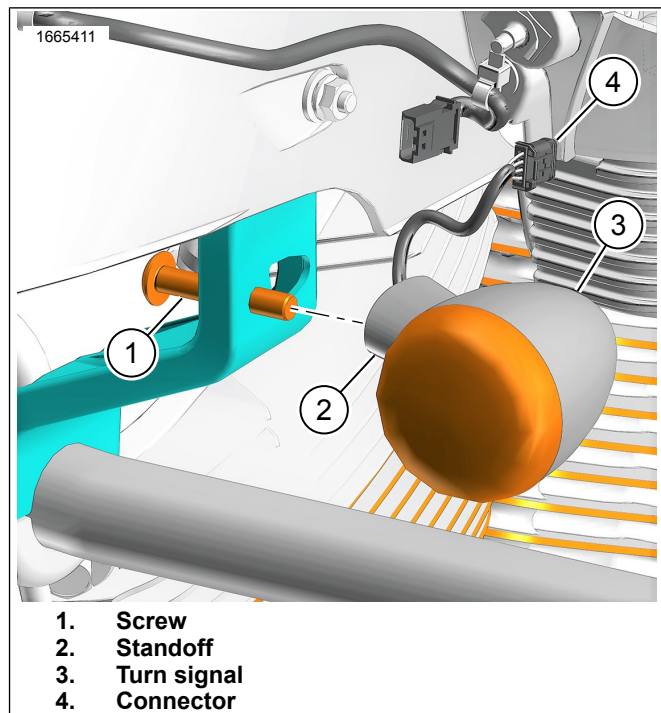

Figure 8.
- a. See Figure 8. Route turn signal harness through fairing support bracket.
- b. Install standoff (2) turn signal (3).
- c. Install screw (1). Tighten.